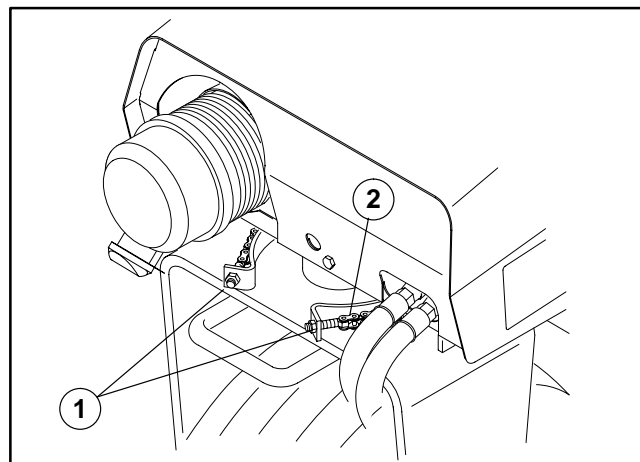
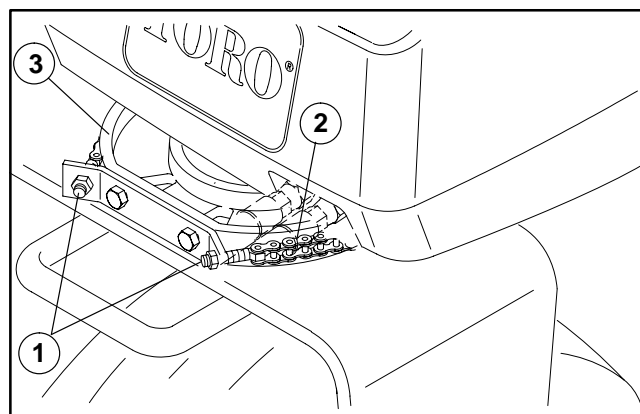

Figure 1
Figure 2
**NOTE:** The steering chains on the **SP 2020/3020** (Fig. 1) and **SP 5020** (Fig. 2) are adjusted in the same manner. Newer models of the **SP 3020** have a chain guide similar to the **SP 5020**.